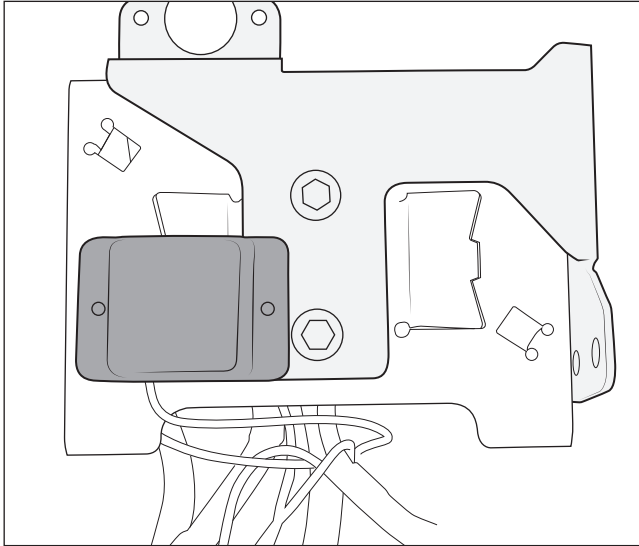

Figure 21
5. Attach the small box to the bottom of the solenoid pack with the supplied double sided adhesive. Be sure to clean and prep the surface with alcohol (fig. 21).